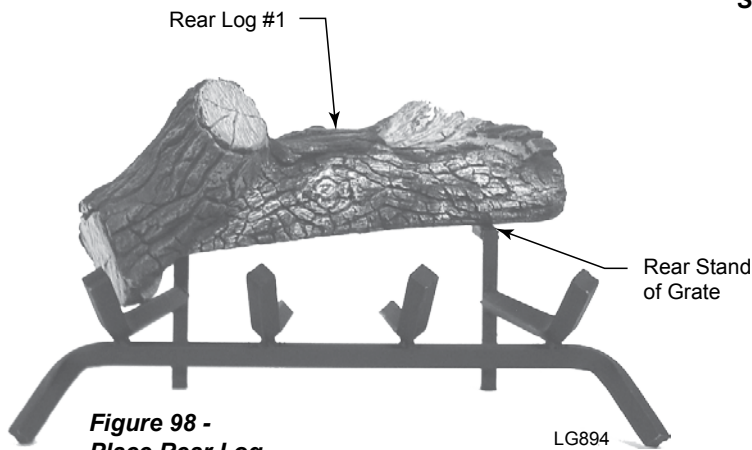

Figure 98 - Place Rear Log
2. Place Rear Log #1 on back of grate. Left side should fit on grate in front of rear stand. Right side goes on the rear stand of grate. *Figure 98*